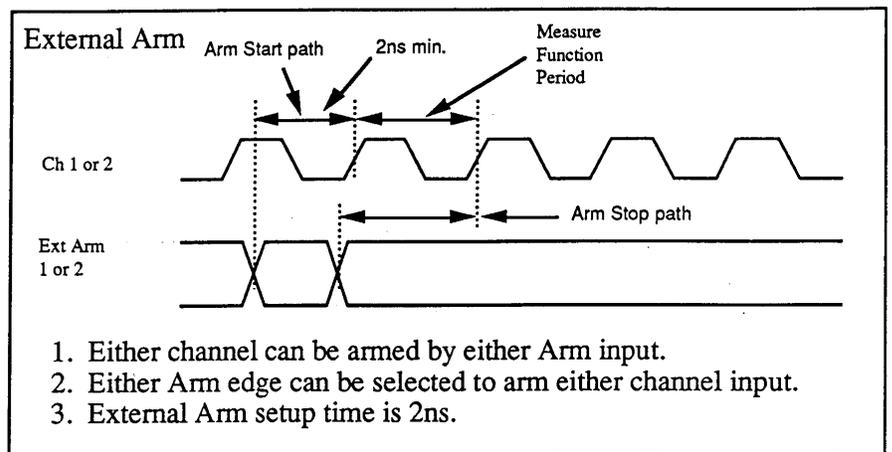

Figure 3.
1. Select which arm, 1 or 2, arms which channel, 1 or 2. Arm 1 or 2 can separately arm channel 1 and 2 or both channels (see figure 3). The default mode is Arm 1 for both channels.